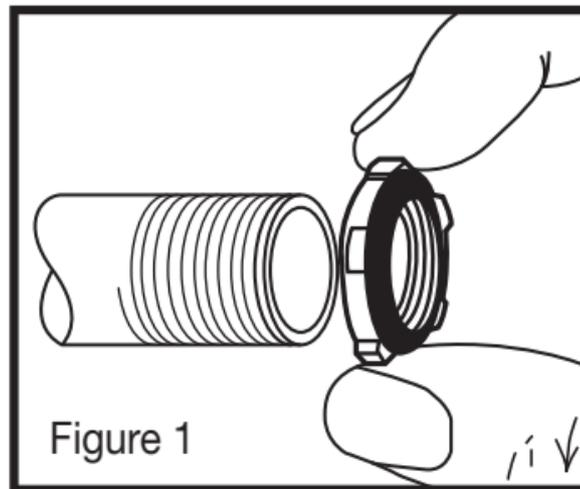

Figure 1
1. Thread sealing locknut onto conduit up to end of thread, as shown in Figure 1.